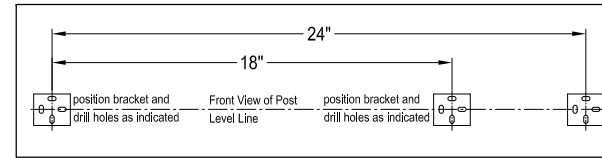

Fig. 1
- Step 1. Locate where you would like to install the towel bar by measuring from end to end on the towel bar then measure the desired height on the wall where the towel bar will hang (fig 1).
- Step 2. Place a base onto the wall and trace around it with a pencil (fig 1).